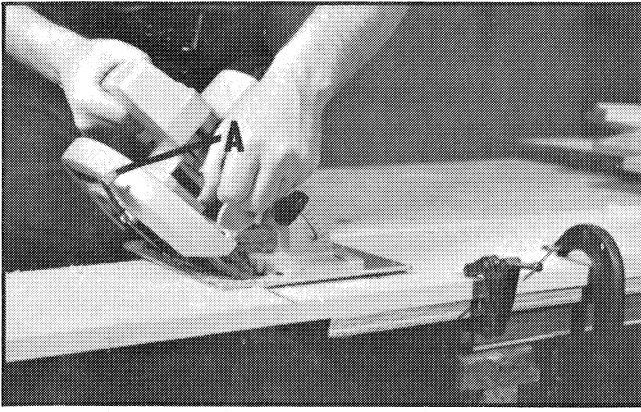

Fig. 12
Bevel cuts are made in the same manner as crosscuts and rip cuts. The only difference is that the blade is set at an angle between 0 degrees and 45 degrees, as shown in Fig. 12.
The bevel cut made at an angle to the edge of a board is called a compound cut. There are certain compound cuts, on which it may be necessary to manually retract the telescoping guard to allow the blade to enter into and/or through the cut. On these compound cuts and also when starting pocket cuts, ALWAYS use the lever (A) Fig. 12, provided on the telescoping guard when you have to retract the telescoping guard manually.